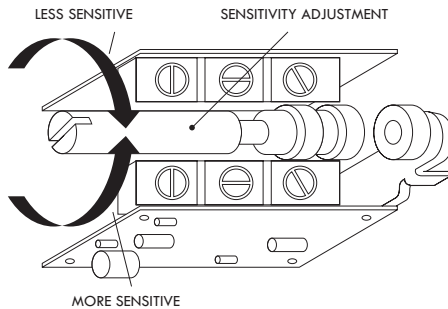

Figure A-52: Sensitivity adjustment
- Start the machine. If the instrument trips on start-up, allow the machine to stop. Turn the sensitivity adjustment 1/4 turn clockwise (see Figure A-52): Depress the reset button and restart the machine. Repeat this process until the unit does not trip on start-up.